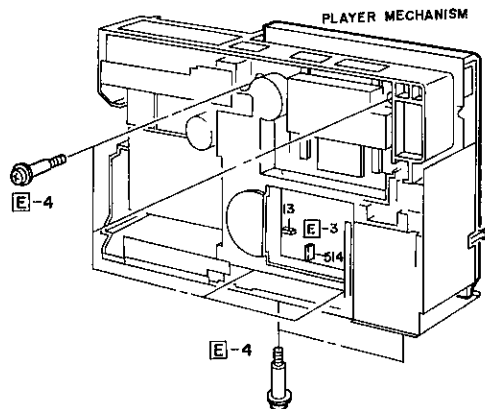

Figure 5-1
3. Pull out two sockets (CNS13, CNS514) shown in Figure 5-1.
4. Remove six screws from the player mechanism shown in Figure 5-1, and take the mechanism off.